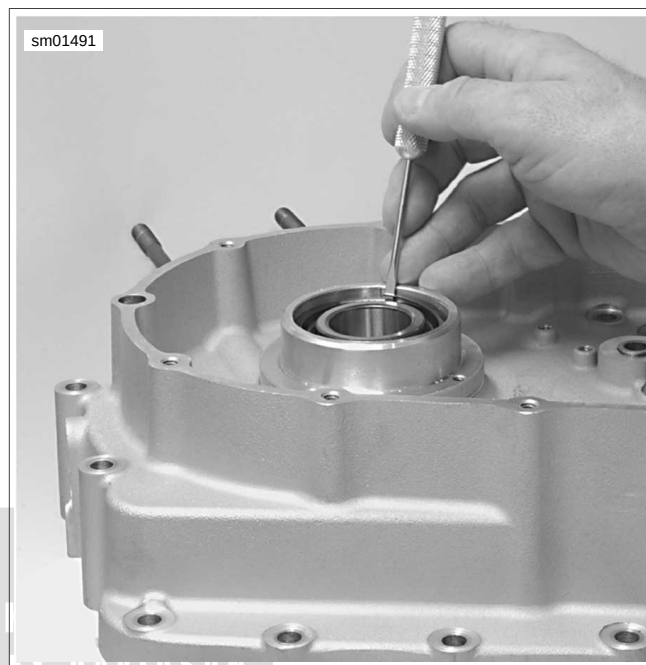

Figure 3-153. Removing Left Main Oil Seal Retaining Ring
3. See Figure 3-153. Place flywheel assembly in FLYWHEEL SUPPORT FIXTURE (Part No. HD-44358). Pull sprocket shaft bearing inner race with CLAW PULLER WEDGE ATTACHMENT (Part No. HD-95637-46B) with BEARING RACE REMOVER AND INSTALLER KIT (Part No. HD-34902-C) and END CAP (Part No. HD-34902-7).
4. See Figure 3-153. See Figure 3-151. Remove outer left main bearing retaining ring (2).